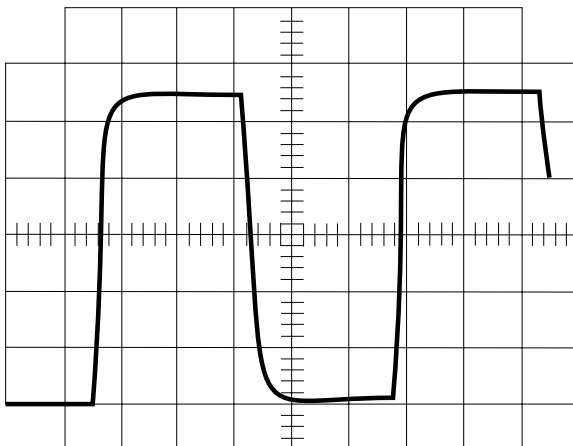

Figure 4.3 10 kHz square wave response
**Procedure:** Load each channel to 8 ohms. Inject a 10 kHz square wave to obtain 90 volts zero-to-peak at each output. Observe the slope of the square wave. It should typically measure 30 to 40 V/ $\mu$ S. Also, the square wave must not include overshoot, ringing, or any type of oscillation. See Figure 4.3 for typical 10 kHz square wave response.